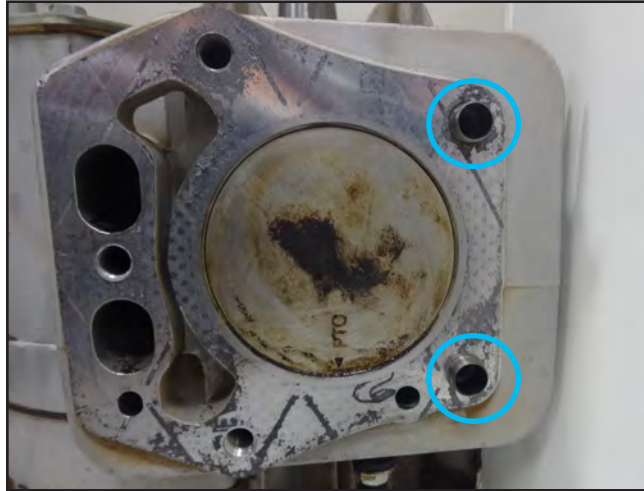

Figure 28
4. Remove the two alignment pins (Figure 28).